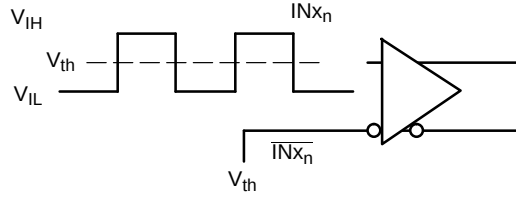

Figure 5. Differential Input Driven Single-Ended
DIFFERENTIAL INPUT DRIVEN SINGLE-ENDED (Note 6) (Figures 5 and 6)
8. Differential 50% duty cycle at $V_{INPPmin}$ clock source. Outputs evaluated with 50 Ω resistors to $V_{TT} = V_{CC} - 2.0$ V (See Figure 16). Input crosspoint to output crosspoint for INxn/INxn to Qx, $\overline{Qx}$; 50% input to output crosspoint for SELx to Qx, $\overline{Qx}$. See Figures 5, 10 and 11.